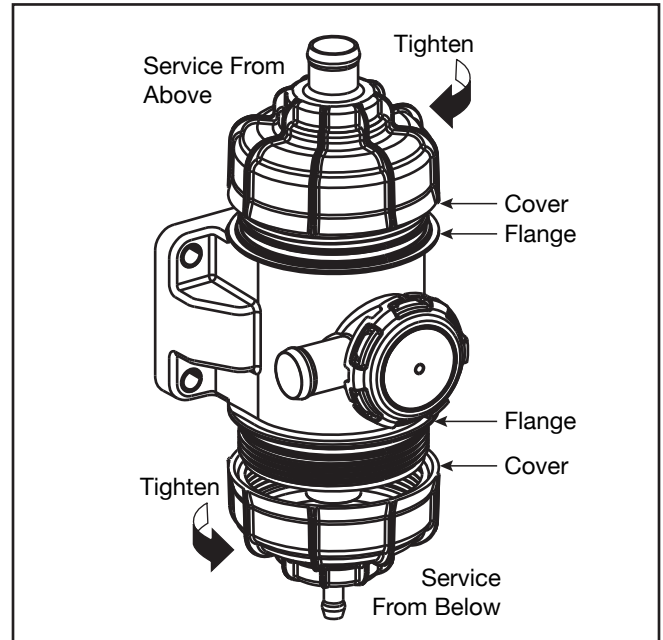

Figure 6 – Tightening the Cover(s)
6. Use a rubber or cloth strap wrench to fully secure the cover. Tighten until the cover touches the flange of the base. See Figure 6.